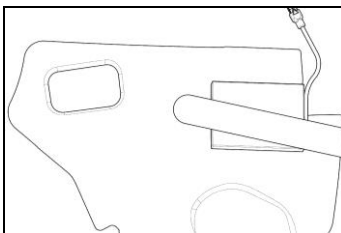

Fig. 32
- Position the battery in the right polystyrene cheek pad housing and secure it using the Velcro ribbon (Fig. 32).